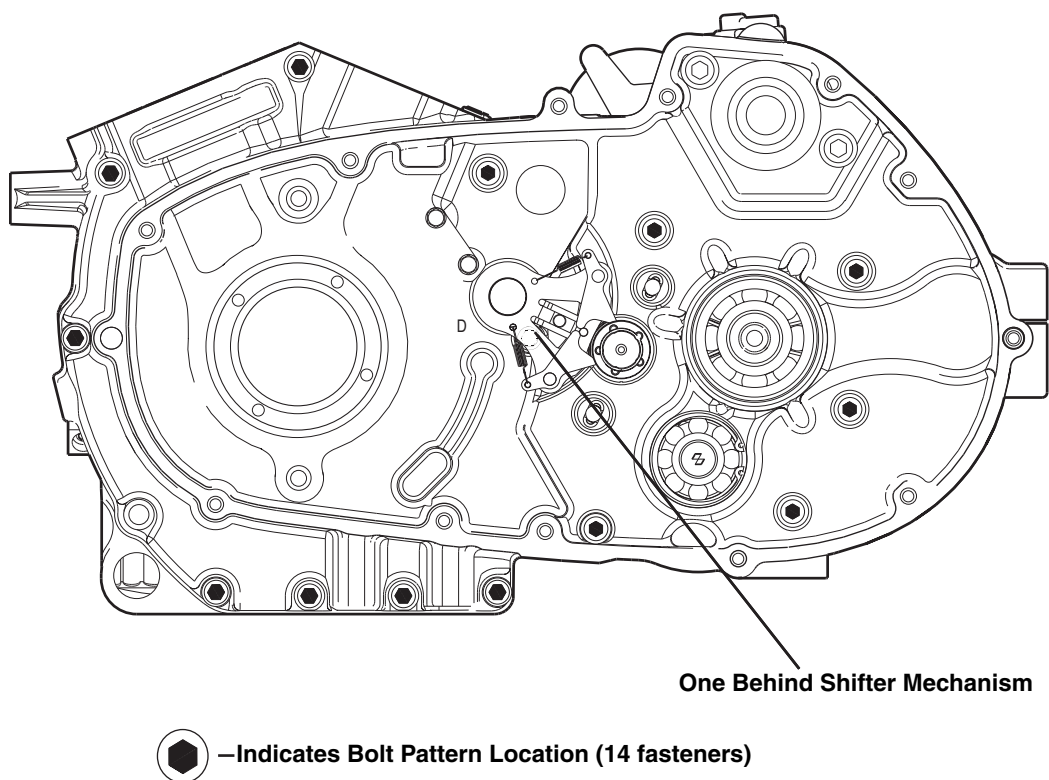

Figure 6-52. Crankcase Fasteners
15. See Figure 6-52. Remove crankcase bolt set (14 fasteners).